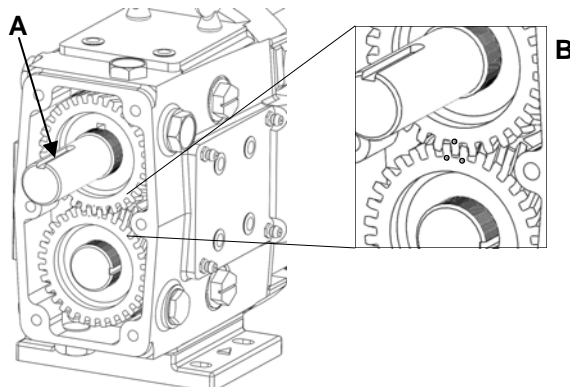

Figure 44: Installing Gears with Correct Timing
8) Once the gear keys are installed, orientate the shafts so that the keyways on the drive shaft are pointing in the 12 o'clock direction (Figure 44, A). Slide the right-handed gear with the single punch mark onto the drive shaft. Slide the second gear with two punch marks on the short shaft. To time the gears, align them so that the single punch mark falls between the two punch marks on the opposite gear (Figure 44, B).